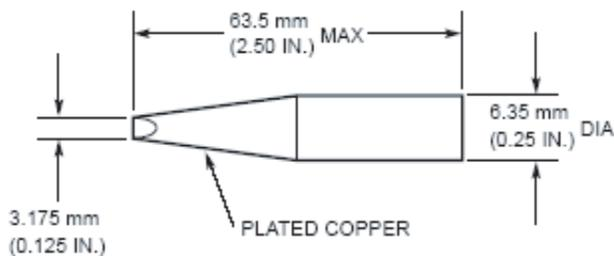

Figure 2. Example of soldering iron tip for hand soldering TH LED components
3. Most of the industrial soldering iron tips are pre-tinned by the manufacturer. Example of copper plated soldering iron tips, short length with a conical taper tip as shown in Figure 2.